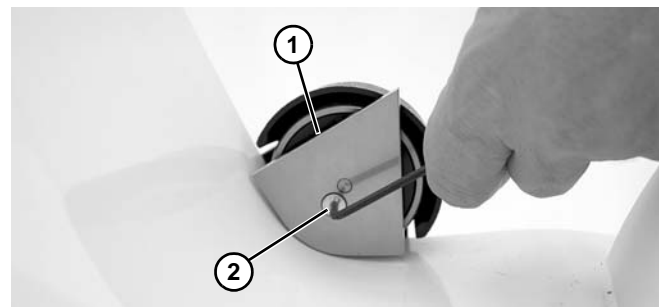

Figure 57
5. If equipped, install lower knuckle return roller assembly (**Figure 57, item 1**) with screws (**Figure 57, item 2**) on both sides of conveyor.